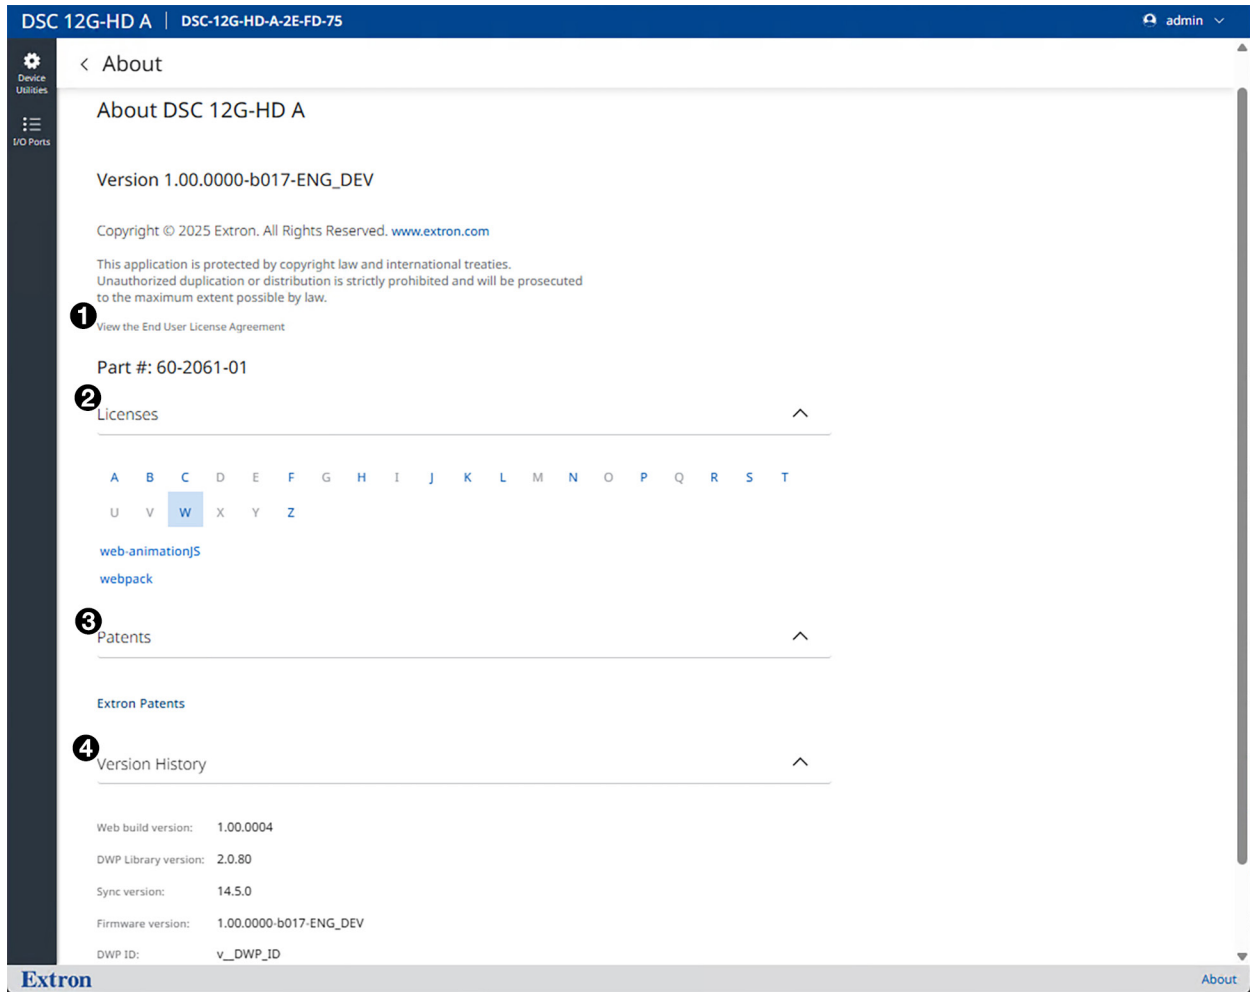

Figure 40. About Page, Expanded Panels
The **About** link, ⑦, located in the bottom right corner of the web page, opens a screen containing general information about the DSC and links to the product licenses and patents. To expand a panel on the About screen, click the **down arrow** button at the right of the panel (see figure 40).